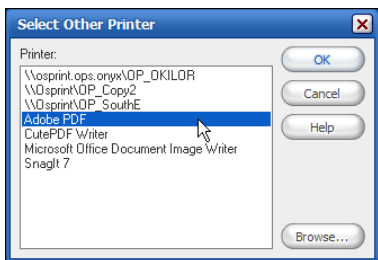

Figure 4—Select Other Printer
2. Click **Configure**. This opens the **Select Other Printer** dialog which lists all the available Windows printers (see Figure 4).